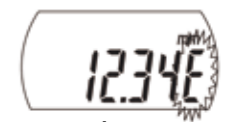

Fig. 3
2. The letter "E" appearing temporarily at the end of the display while the spindle is moving is normal. However, if it is displayed continuously when the spindle is at rest then repair is necessary. (Fig. 3)